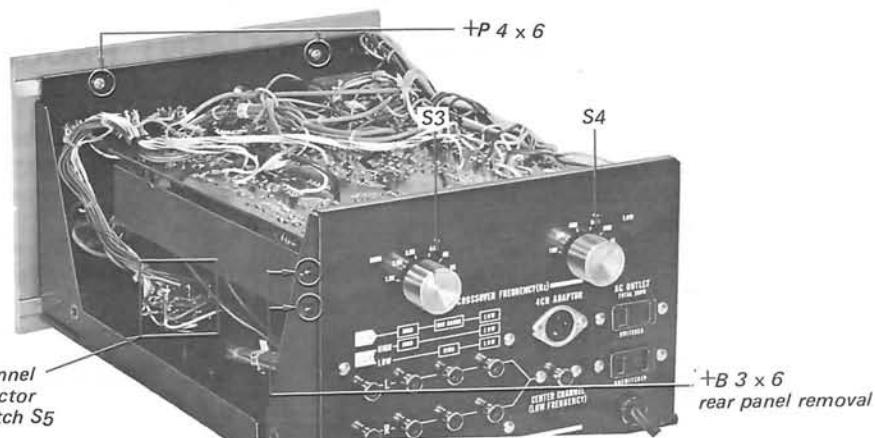

Fig. 2-2. Front panel removal
3. Remove the two screws (+P 4 X 6) securing the front panel from the back of the front subchassis as shown in Fig. 2-2.
3. Remove the two screws (+B 3 X 6) at each side of the rear panel as shown in Fig. 2-2.